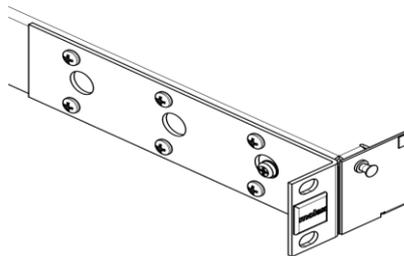

Fig.1
3.1 Installing adjustable mounting angles (Fig.1)